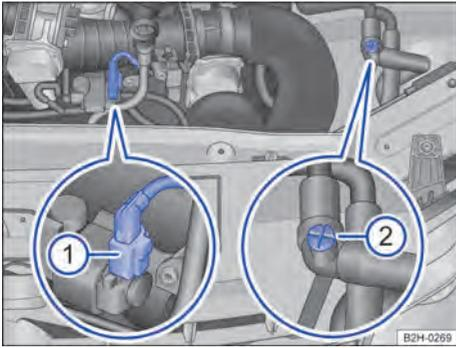

Fig. 191 In the engine compartment: connector and manual bleed valve.
5. Open the manual bleed valve by around three turns anticlockwise → Fig. 191 ②.
7. Pull off the connector next to the oil dipstick and secure it → Fig. 191 ①. Do not fit the connector again before going to the workshop.